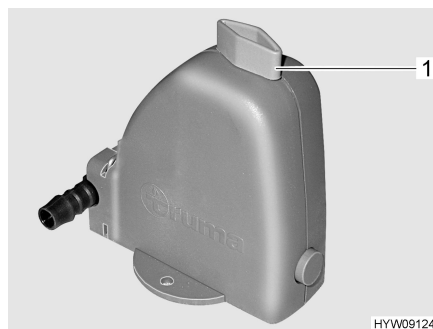

Fig. 73 Safety/drainage valve
- Open the safety/drainage valve (Fig. 73). To do this turn the knob (Fig. 73,1) parallel to the safety/drainage valve.